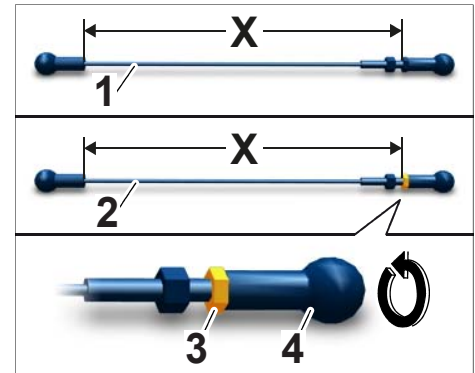

Figure 2
- 2.3 Measure the old tension rope ⇒ *Figure 2 -1-* using a ruler ⇒ *Figure 2 - Measurement X-* and then adjust the new tension rope ⇒ *Figure 2 -2-*, Part No.: **000.043.207.98**, to the same length.
To do this, loosen the lock nut ⇒ *Figure 2 -3-* and unscrew the ball socket ⇒ *Figure 2 -4-* so that you can adjust the tension rope to the previously measured length ⇒ *Figure 2 -(Measurement X)-* (⇒ *Figure 2 -(Tolerance +/- 0,5 mm)-*). Tighten the lock nut again.